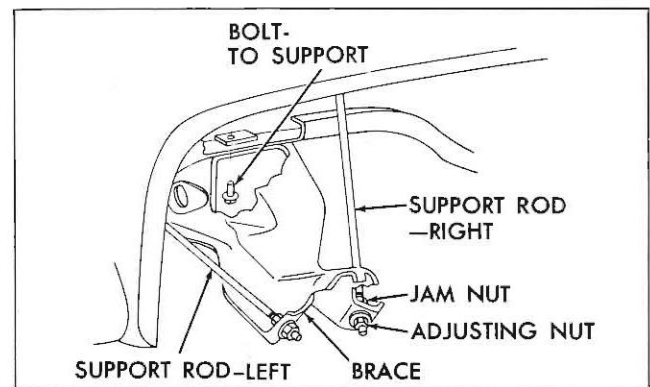

Fig. 6—Instrument Panel to Dash Brace
- a. Loosen the bolt attaching the dash brace to the instrument panel support (Fig. 6).